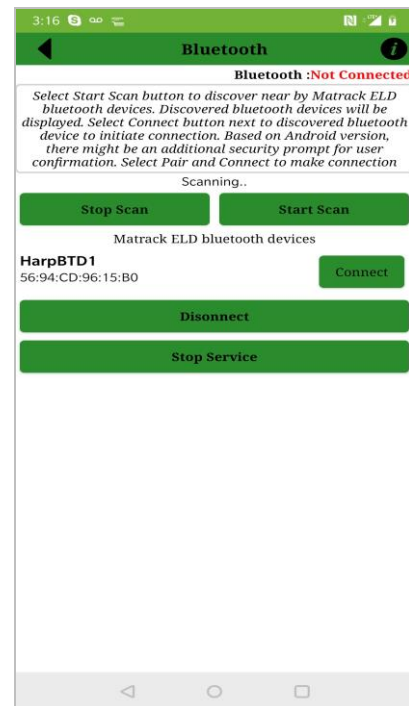

Figure 8.2 – Bluetooth screen
- Select Start scan button (figure 8.2). It will list the available Matrack ELD Bluetooth devices.